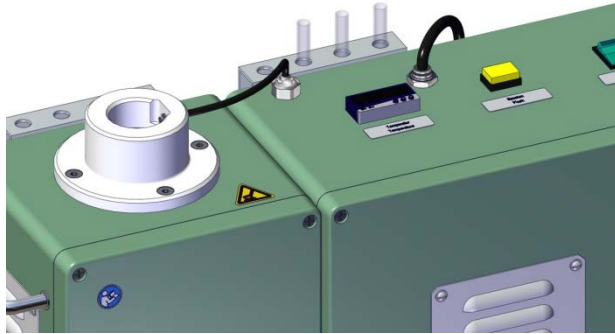

Figure 5.2.1
4. The prepared test samples may be stored on the Test Tube Support (Item 17, Figure 7.5) on the rear *right* side of the apparatus (behind the Control Housing). Up to four samples may be stored in that location. The Test Tube support (Item 18, Figure 7.5) on the *left* (behind the Heating Housing) should not be used for prepared test samples (before measurements) because waste heat from the heater may alter the sand and impact measurements (see Figure 5.2.1 for placement of prepared samples). The left side should be used to store samples that have already been tested.